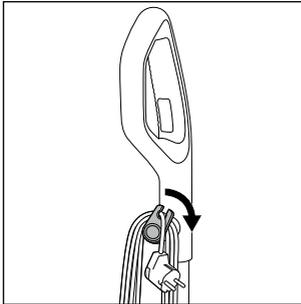

Fig. 12
- ◆ Unwind the power cable **17** completely from the upper and lower cable retainers **16/20**. To unwind the power cable **17** quickly from the cable retainers **16/20**, pull the upper cable retainer **16** out a little way and turn it downwards (see fig. 12).